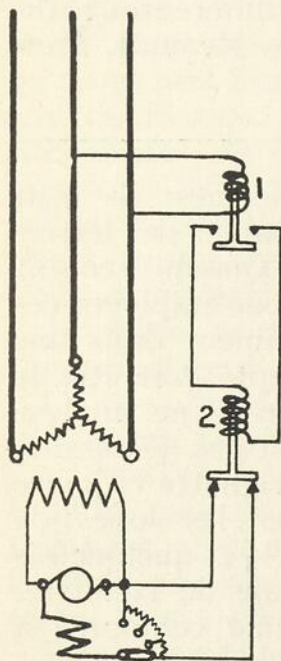

FIG. 1.—Elementary A.C. regulator.
Let us first consider the elementary regulator shown in Fig. 1. Consider the instant, as in the illustration when the line pressure is below normal, the voltage coil contacts open, and the relay contacts short-circuiting the exciter field rheostat. The alternator voltage is in the act of building up. The instant the line voltage attains its normal value, the relay coil (2) is excited and the relay contacts open, causing the exciter voltage to start to drop. The alternator voltage, however, does not cease to increase at this instant,